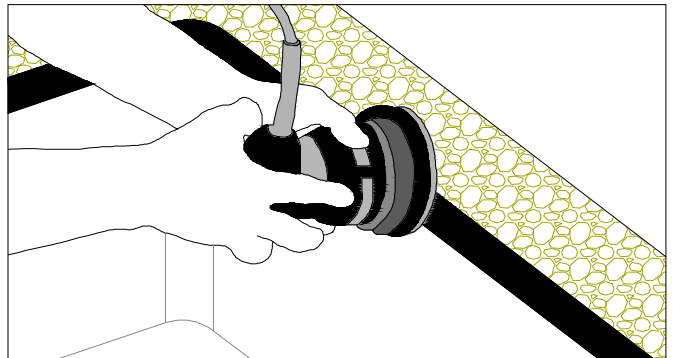

Figure 29B
- Sand the edge on the laminate and sink ring with a random orbital sander. (FIG. 29B)